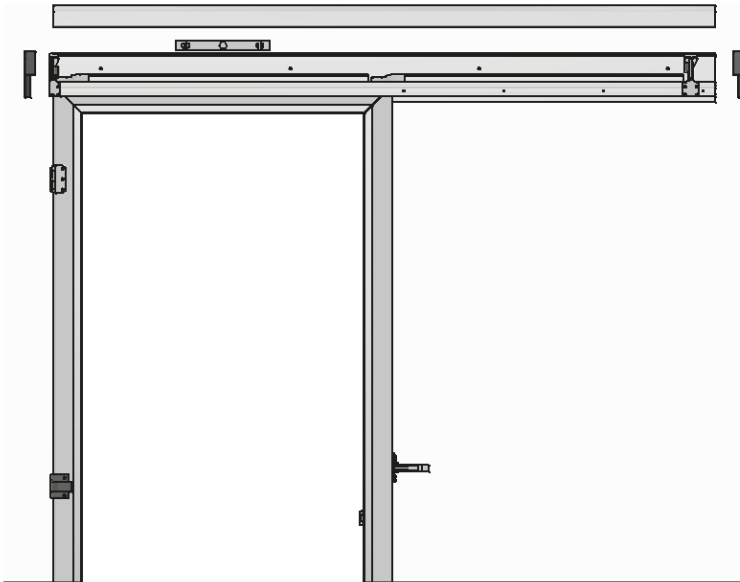

Fig. 4
- Remove the aluminium casing and the black side heads from the upper guide, position the guide perfectly horizontal and against the frame (Fig. 4); drill the panel with a Ø13mm bit and fix the guide with the supplied nylon tie rods (Fig. 5). Proceed in the same way for the lower guide (make 2 holes for doors with door light less than 1.8m and 3 holes for door light equal to or greater than 1.8m).
- Remove the aluminum casing and the black side heads from the upper guide, position the guide perfectly horizontal and against the frame (Fig. 4); drill the wall with a Ø8mm bit and fix the guide with the supplied plugs (Fig. 5). Proceed in the same way for the lower guide (make 2 holes for doors with door light less than 1.8m and 3 holes for door light equal to or greater than 1.8m).